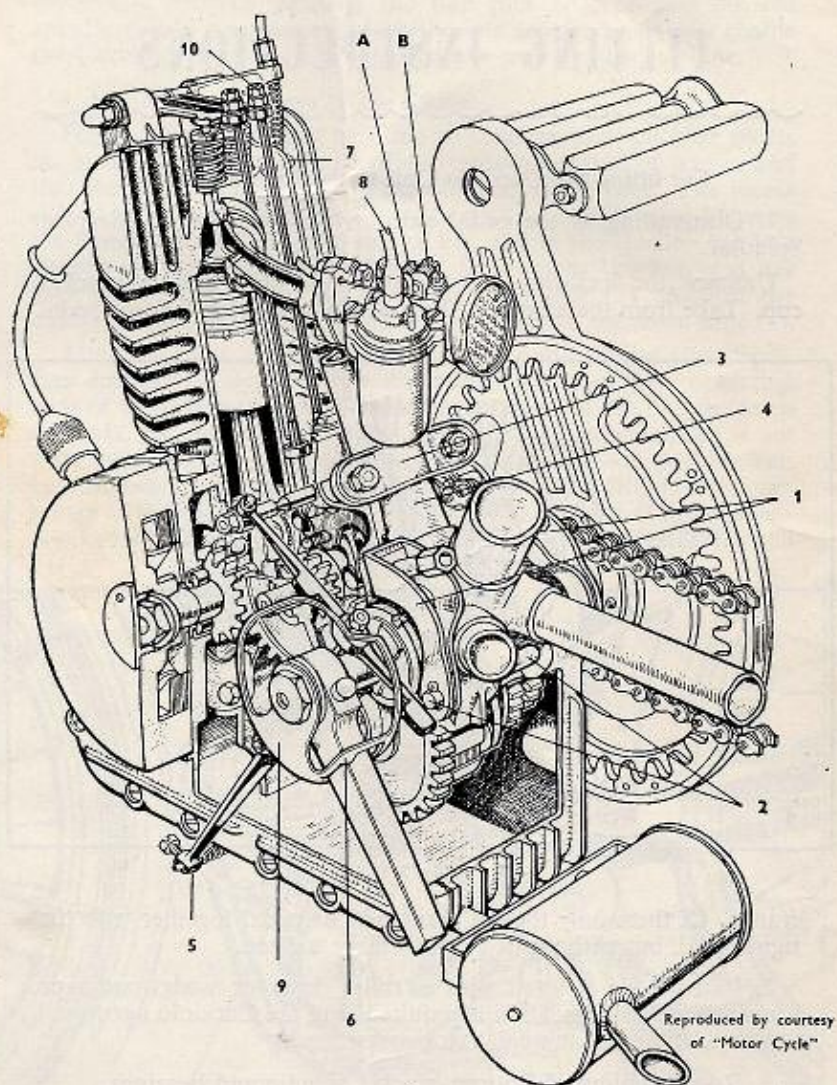
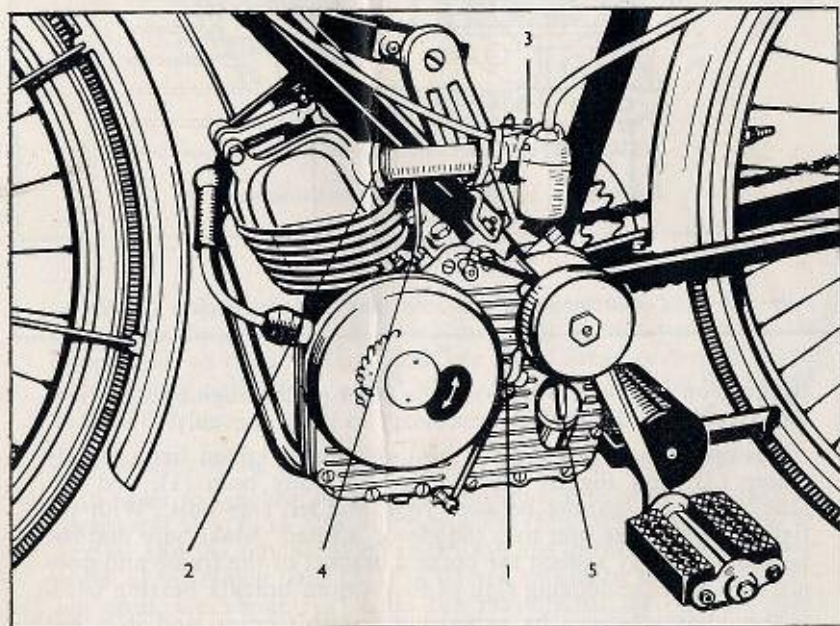

Fig. 1
Fig. 3
In order to synchronise the gear change it is necessary to slacken completely the clutch adjusting screw (1) (Fig. 3). With the gear in neutral and the left pedal down, thread the Bowden wire into the eyelet of the clutch lever (5) (Fig. 1) and pull until the two contacting parts are about $\frac{5}{32}$ " from the pre-selector bell-shaped cam. The Bowden wire should then be locked with the screw (5) (Fig. 1).
The screw (1) (Fig. 3) is then adjusted to give $\frac{1}{8}$ " play at handlebar lever.
The carburettor should be perfectly level. Its position can be corrected by loosening the locking ring (2) (Fig. 3), which locks the induction tube to the engine. Fit the Bowden cables which are supplied :—
1. To the carburettor, the Bowden wire to the throttle is threaded in the hole of the little thimble on the lever of the carburettor throttle and locked with the screw (3) (Fig. 3).
2. The Bowden wire for the valve lifter is fixed on the top part of the cylinder head with a small nipple (7) (Fig. 1). Note that the operation of the valve lifter control is "inverse", that is the Bowden wire is fixed while the casing does the pushing, therefore, do not tape the casing too tightly to the bicycle frame. For neatness the casing can be passed through a small piece of metal tubing or sleeve, 1" long, and this sleeve can be then neatly taped to the down-bar, together with the clutch and throttle Bowden control casings. It is recommended to oil or grease the inner cable of all Bowden controls before fitting, thus ensuring smooth and long life service.
Fit the plastic petrol tube to the petrol tap and to the carburettor (8) (Fig. 1). (For easy fitting dip ends of tube in hot water for a few seconds).
headlight wire should be secured to the insulated terminal (4) (Fig. 3). Check that the engine is in good electrical contact with the bicycle frame, also the headlamp bracket. About twelve watts are available from the flywheel generator, sufficient for bright headlight and tail light illumination.
LUBRICATION: Every motor is delivered dry; before it is started unscrew the plug on the left side of the engine (5) Fig. 3), fill the crank case with one pint of motor oil, as stated in the specification.